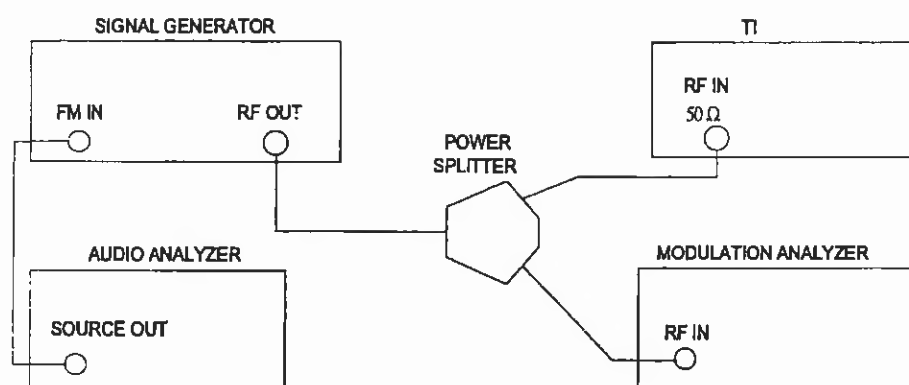

Figure 2.
4.3.1 Connect the equipment as shown in Figure 2.